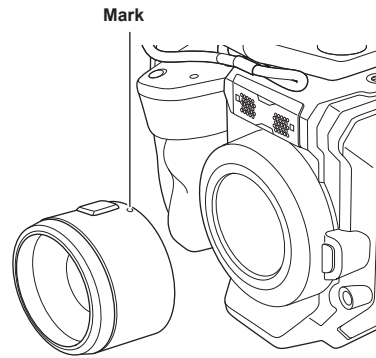

Fig. 2
- 2** Mount the included microphone holder to the microphone holder adaptor using the microphone holder screws (x 2). (Fig. 2)
- 3 Insert the lens into the EF lens mount with the mark on the lens (red dot) facing up. (Fig. 2)**